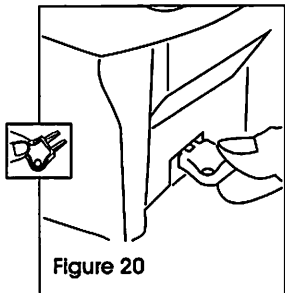
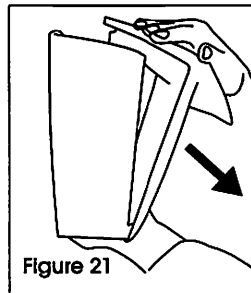

Figure 20
Figure 21
- To **OPEN**, insert key into slots of the release latch on the bottom of the dispenser and push the key up. (See Figure 20) Place your other hand on top and guide the front cover forward. (See Figure 21)